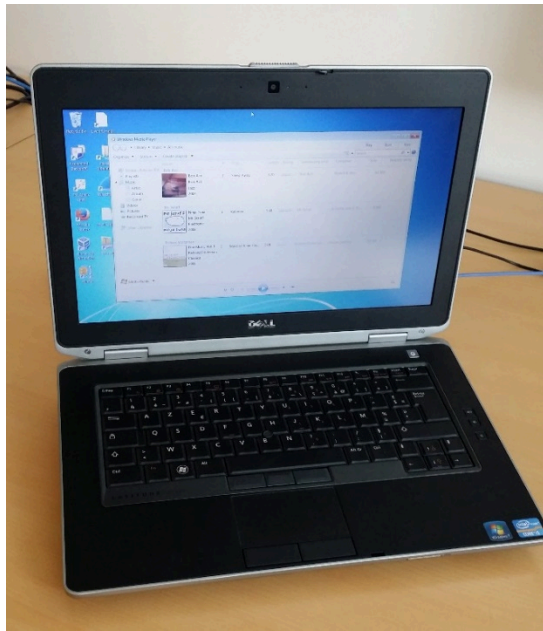

Figure 10. Laptop running Windows OS
5. Windows OS laptop (see Figure 10)